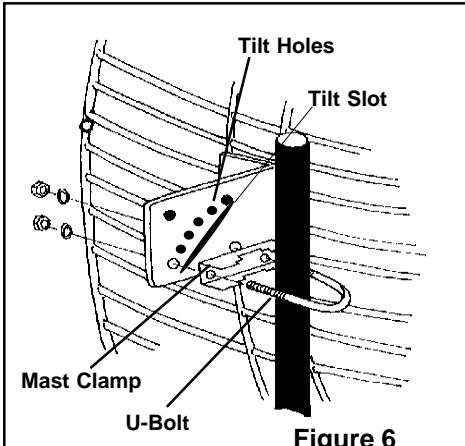

Figure 6
4. Place the mast clamp on the U-bolt. (See Figure 6.) Fasten the U-bolt on the "L" bracket with 2 lockwashers and nuts. (See Figure 5).
Note: Fixed tilt holes provide antenna elevation up to 60° in 10° increments. (See Figure 6).